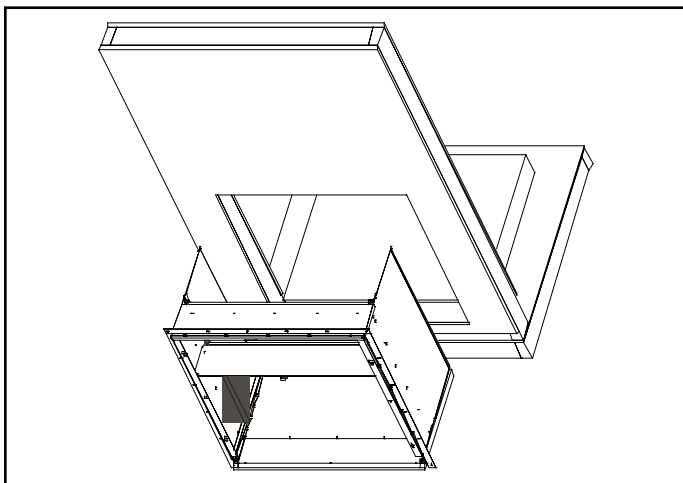

Figure 7. Installing Wall Sleeve from Outside
1. If mounting angles have been installed (see previous section), the wall sleeve can only be inserted through the wall opening from the outside (Figure 7). Push the sleeve all the way into the opening until the mounting angles are up against the outside wall surface.